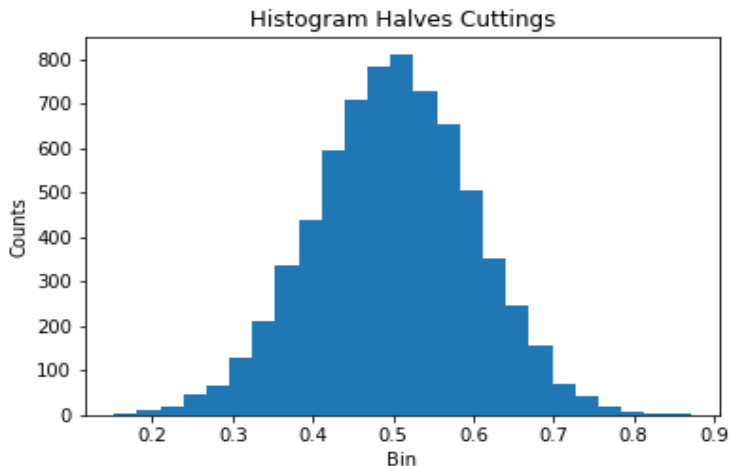

Figure: 2. Histogram of Cutter Variation
The histogram of (19) is shown in Figure 2.